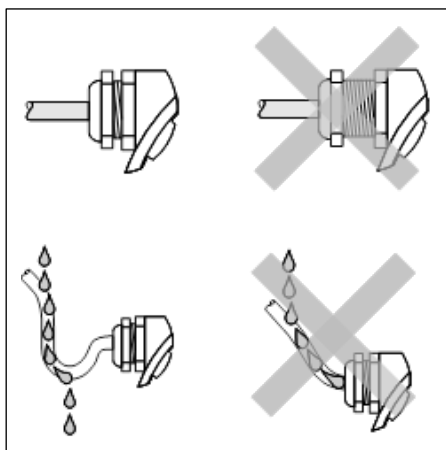

Figure 3
- Firmly tighten the cable entry (see Fig. 3).
- The cables must loop down before they enter the cable entries ("water trap", Fig. 3). This arrangement prevents moisture penetrating the entry. Always install the measuring device in such a way that the cable entries do not point up.